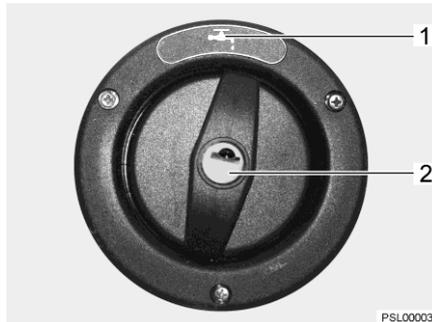

Fig. 93 Cap for the drinking water filler neck
The drinking water filler neck is indicated by the symbol "☞" (Fig. 93,1). The cap is opened and closed using the key for the external flap locks.
- Insert key into locking cylinder (Fig. 93,2) and turn a quarter turn in an anticlockwise direction.
- Open drinking water filler neck (Fig. 93).